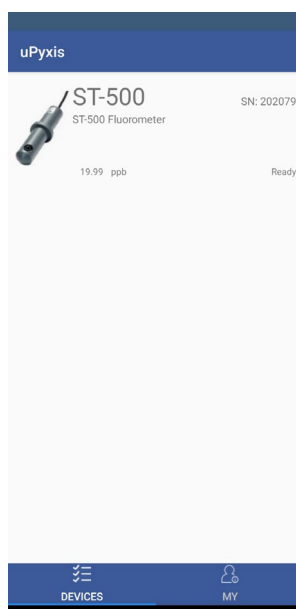

Figure 9.
4. If the connection is successful, the Prism ST-500W and its Serial Number (S/N) will be displayed (Figure 9).